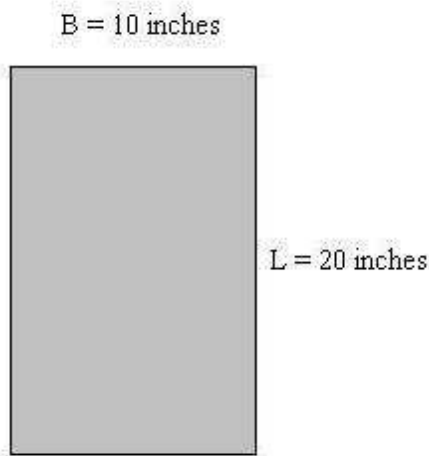

Figure 1: Cross-sectional area.
1. Calculate the maximum tensile and compressive forces allowed for the cross-sectional area shown in Figure 1. The maximum tensile strength is 500 lb/in² (pounds per inches squared). The maximum compressive strength is 5,000 lb/in². Use the following equations to complete the problem. Show your work and calculations.